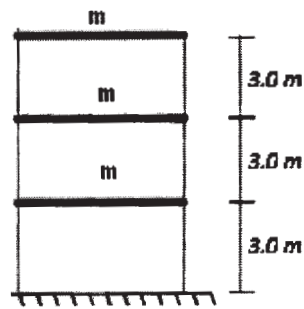

Fig.4.1
- Q4) a)** Draw the mathematical model for the structure shown in Fig. 4.1 and obtain governing equation of motion. Assume $m = 2000\text{kg}$. [8]